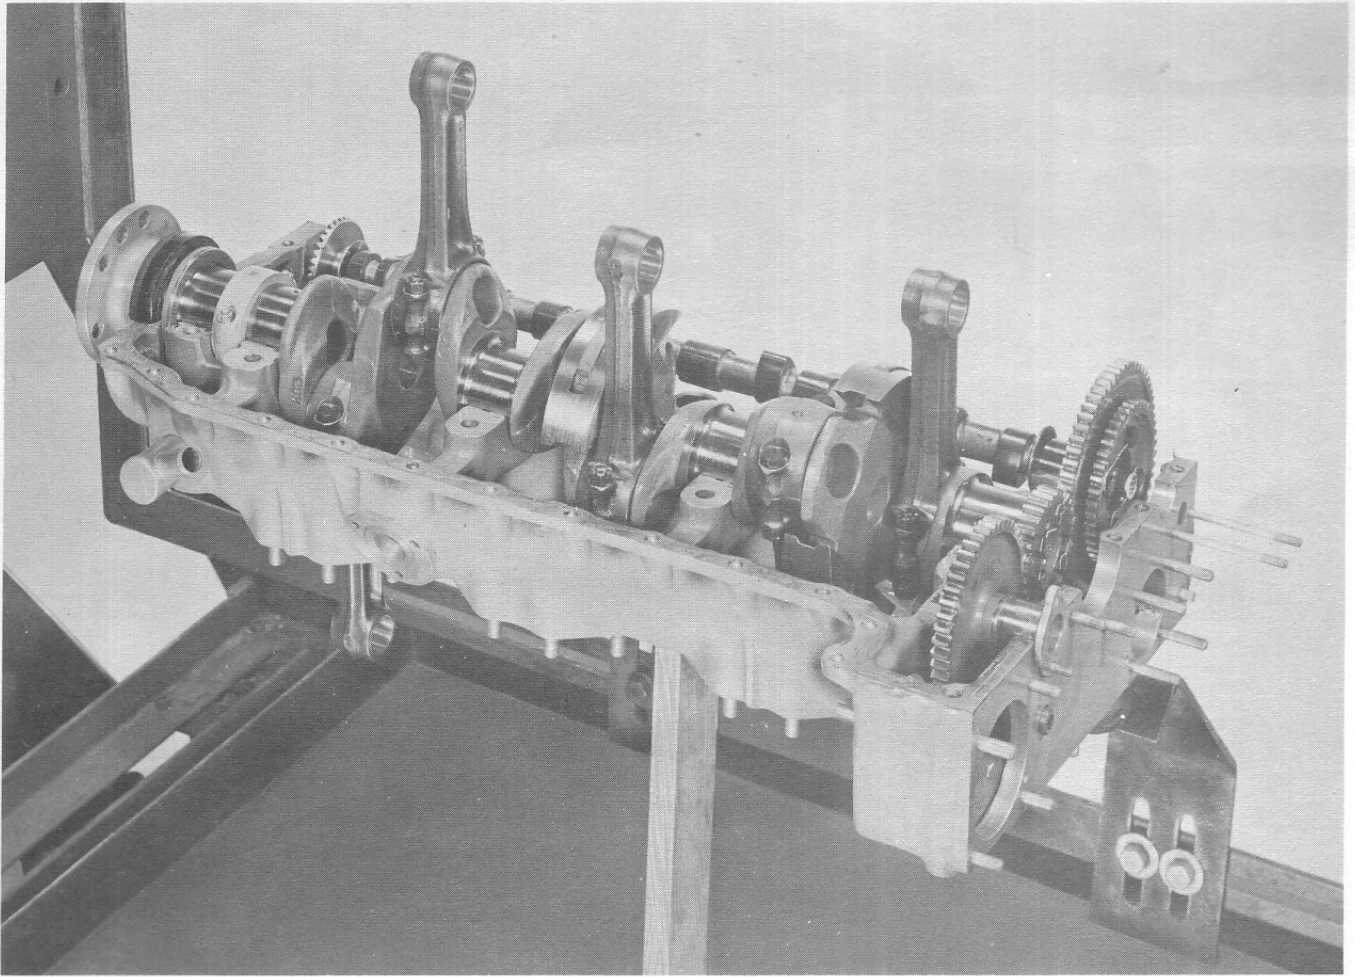

FIGURE 8-1. LEFT CRANKCASE AND SHAFTS ASSEMBLED ON STAND.
a. Install left crankcase on assembly stand, supported as shown in Figure 8-1.
f. (See Figure 4-28.) Install idler gear assembly and support pin in left crankcase as illustrated (Figure 8-1) with bushing thrust to rear.